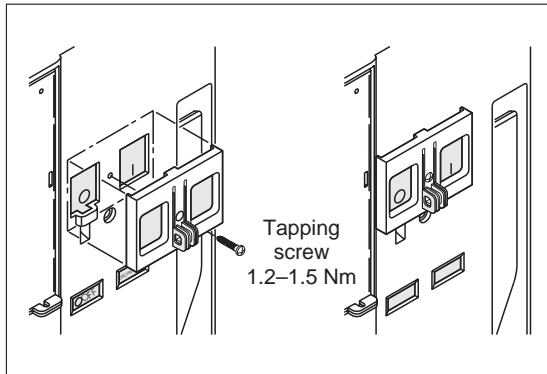

Fig. 4-76:
- ① Place the button covers and the button cover frame over the push-buttons as shown in the following fig. 4-76.